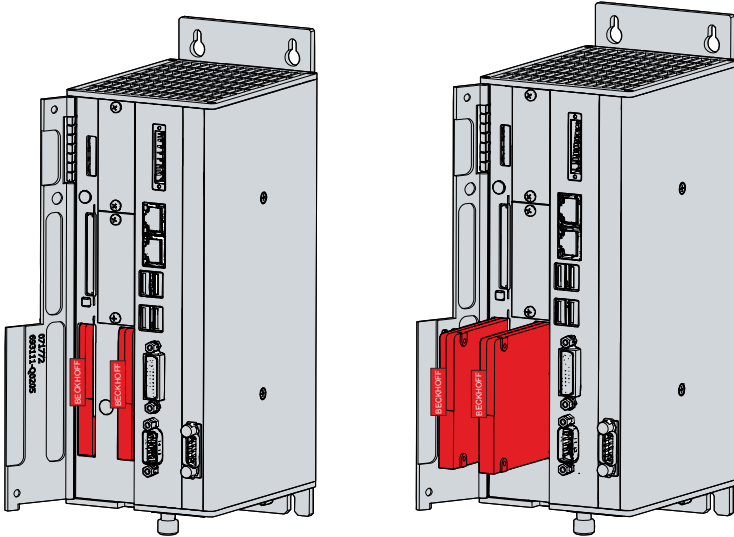

Fig. 27: C6930\_SSD replacement
1. Remove the SSD from the PC by pulling forcefully on the protruding Beckhoff sticker (see fig. 27).